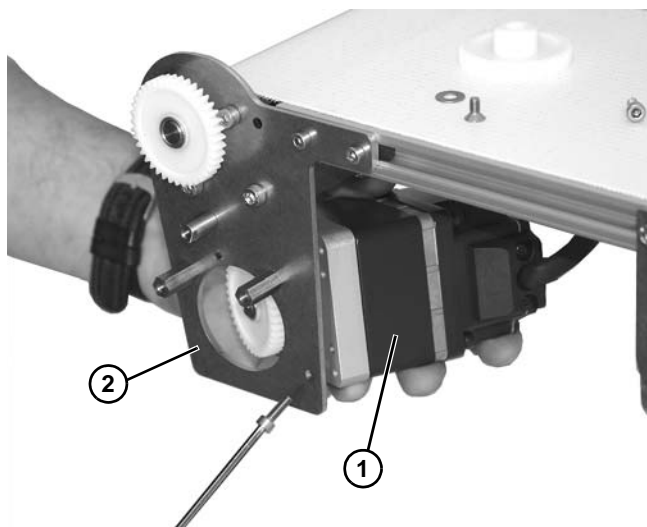

Figure 16
11. Remove gearmotor (Figure 16, item 1) from mounting plate (Figure 16, item 2).